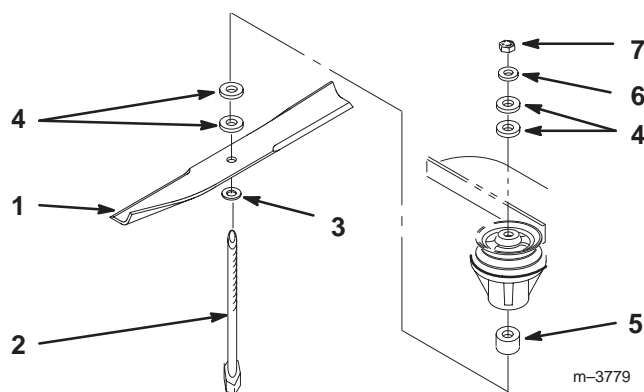

Figure 7
1. Remove the standard blades (Fig. 7). Refer to Operator's Manual.
2. Place the blade onto the bolt, over cone washer. Select proper number of spacer(s) for height-of-cut and slide bolt into spindle (Fig. 7).
3. Install remaining spacer(s) for proper height-of-cut and secure with thin washer and nut (Fig. 7).